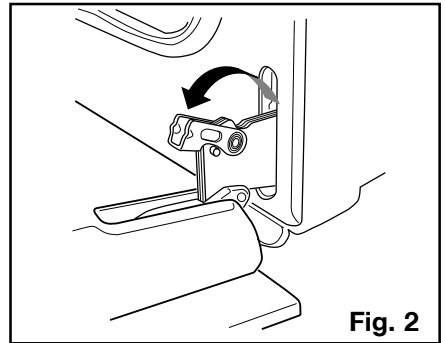

Fig. 2
3. Lift and turn the levers on the two hinges (Fig. 2).